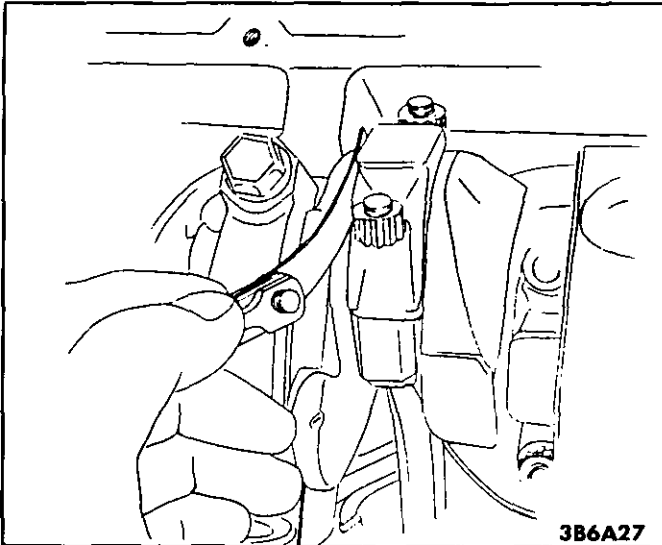

Figure 31 Measuring Connecting Rod Side Clearance (Single Rod Journal)
- Connecting rod side clearance (Figure 31, 32)